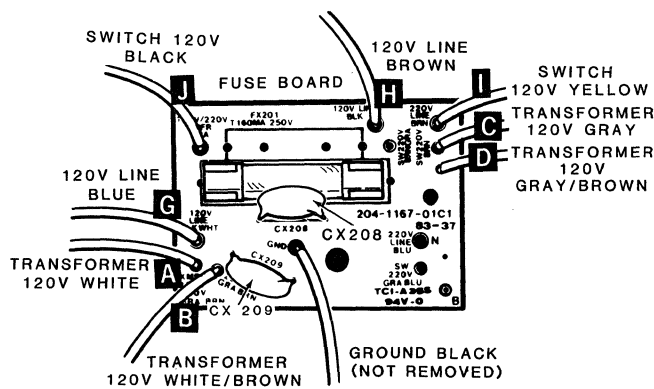

Figure 2.3
2. Refer to Figure 2.3 and unsolder the two pairs of the 120-volt transformer leads at A, B, C, and D on the fuse board. (These leads are normally a pair of light tan (or white) and a pair of gray leads. One lead of each pair will normally have a brown stripe.)